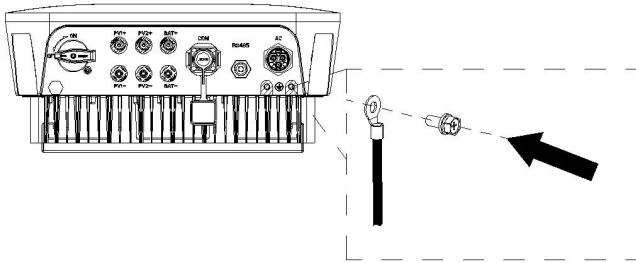

Fig 5.2 PV grounding diagram
(1) As shown in Fig 5.2, connect the output wire of the PV string to the DC connector of the inverter. Loosen the fastening nut of the connector; strip off the 15mm insulation layer of the DC cable, and use crimping pliers to press the standard metal terminal tightly. The tightening torque of the waterproof part of the tail is 2.5-3Nm. The wiring method of the positive and negative connectors is the same. Confirm that the positive and negative poles of the PV string correspond correctly to the positive and negative connectors ,then connect them firmly;